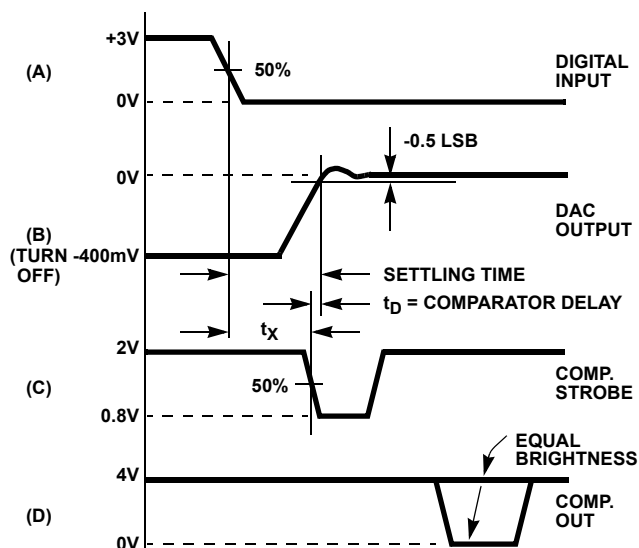

FIGURE 3B.
As shown in Figure 3B, settling time equals t_X plus the comparator delay ($t_D = 15\text{ns}$). To measure t_X :
- Adjust the V_{LSB} supply for 50% triggering at COMPARATOR OUT. This is indicated by traces of equal brightness on the oscilloscope display as shown in Figure 3B. Note DVM reading.
- Switch the LSB to Pulse (P).
- Measure t_X from scope as shown in Figure 3B. Settling time equals $t_X + t_D$, i.e., $t_X + 15ns$.